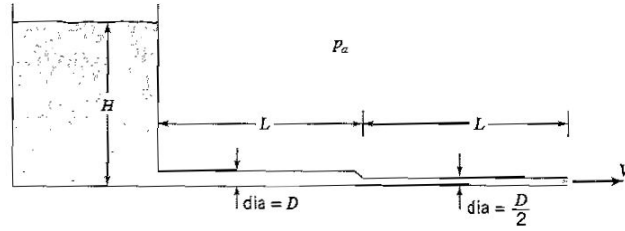

Figure P8.20
8.20 A water tank of constant depth H , open to the atmosphere, is connected to the piping system shown in Figure P8.20. After a length of pipe L of diameter D , the diameter decreases smoothly to a value of $D/2$ and then continues on for another length L before exiting to atmosphere. The friction factor f is the same for all piping. C_{D1} and C_{D2} are the loss coefficients for the entry and exit. Calculate the depth of the tank required to produce an exit velocity of V .